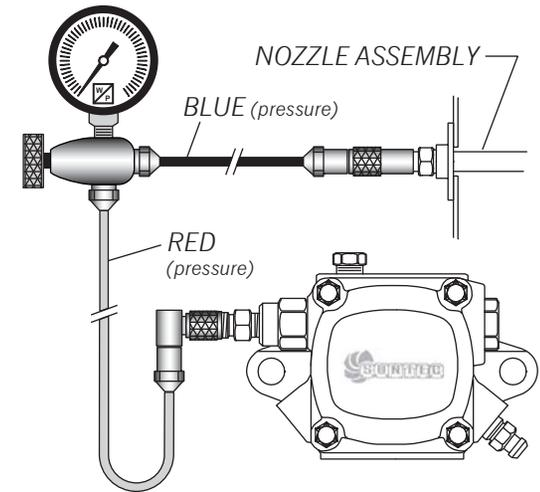

Figure 2.
6. Connect the tester as shown in Figure 2. directly to the existing flare fittings making finger tight only. Use adaptors supplied if fittings are 1/4" flare.